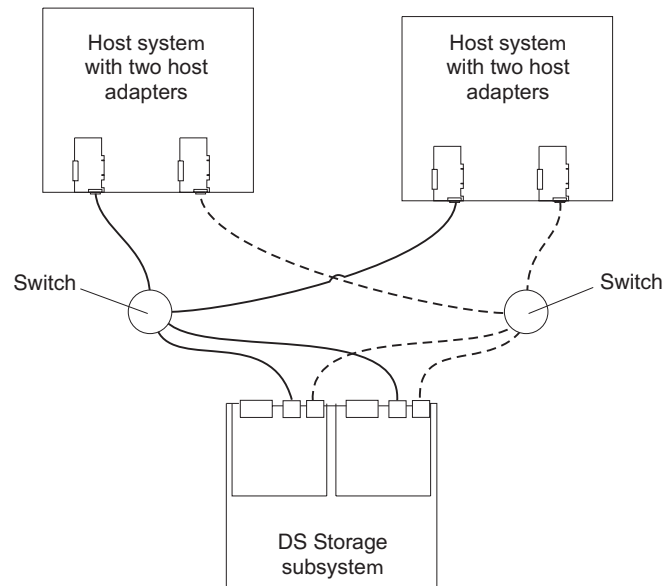

Figure 58. Example of a dual SAN fabric configuration
- Dual SAN fabric configuration, as shown in Figure 58 on page 89
In Figure 58 on page 89, the Fibre Channel switches are connected together via the inter-switch link (ISL) to form a dual SAN fabric.